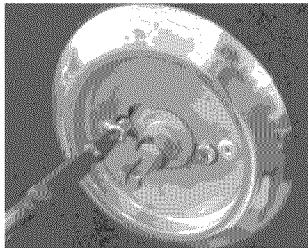

Fig. 11g
6. Insert valve stem through hole in fascia and attach with previously removed 2 screws in previous step as shown in **Fig. 11g**.